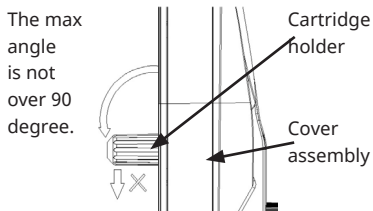
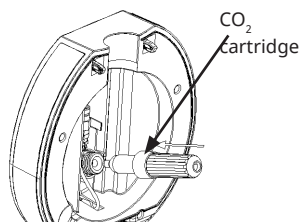
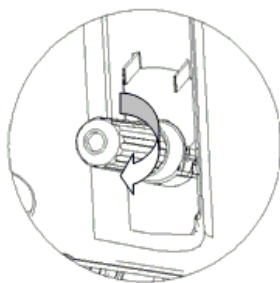

Figure 10
Figure 11
Figure 12
4. Make sure that the pressure regulator on the lid is in the "-" position. Rotate the cartridge holder outwardly from the upper cover assembly by an appropriate angle, not exceeding a maximum angle of 90 degrees (see figure 10). Then unscrew the cylinder sleeve and install a CO₂ cartridge (with 3 CO₂ cartridge attached) into the gas bottle (see figure 11), and then carefully tighten the cartridge quickly (clockwise tight, counterclockwise is loose) (figure 12), until you hear a "click" sound, indicating that the cartridge seal has been pierced and the CO₂ gas can flow into the keg freely. The pressure relief regulator assembly is then rotated upwards and snapped into the upper lid assembly. If the cartridge is replaced, follow the reverse procedure (make sure the gas is used up when changing the gas bottle).